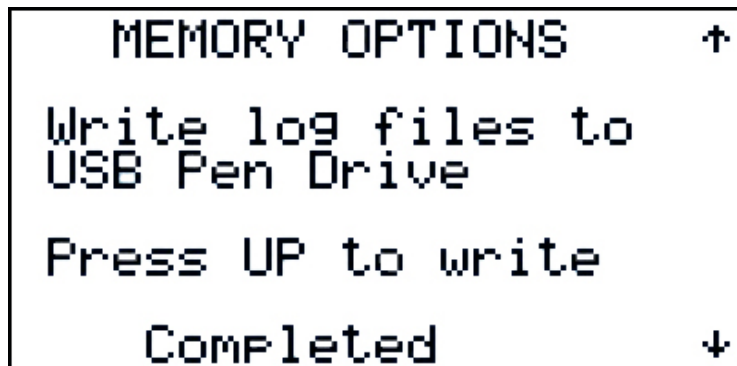

Figure 92
2.3.3.5 Memory Options (Figures 92 - 94)